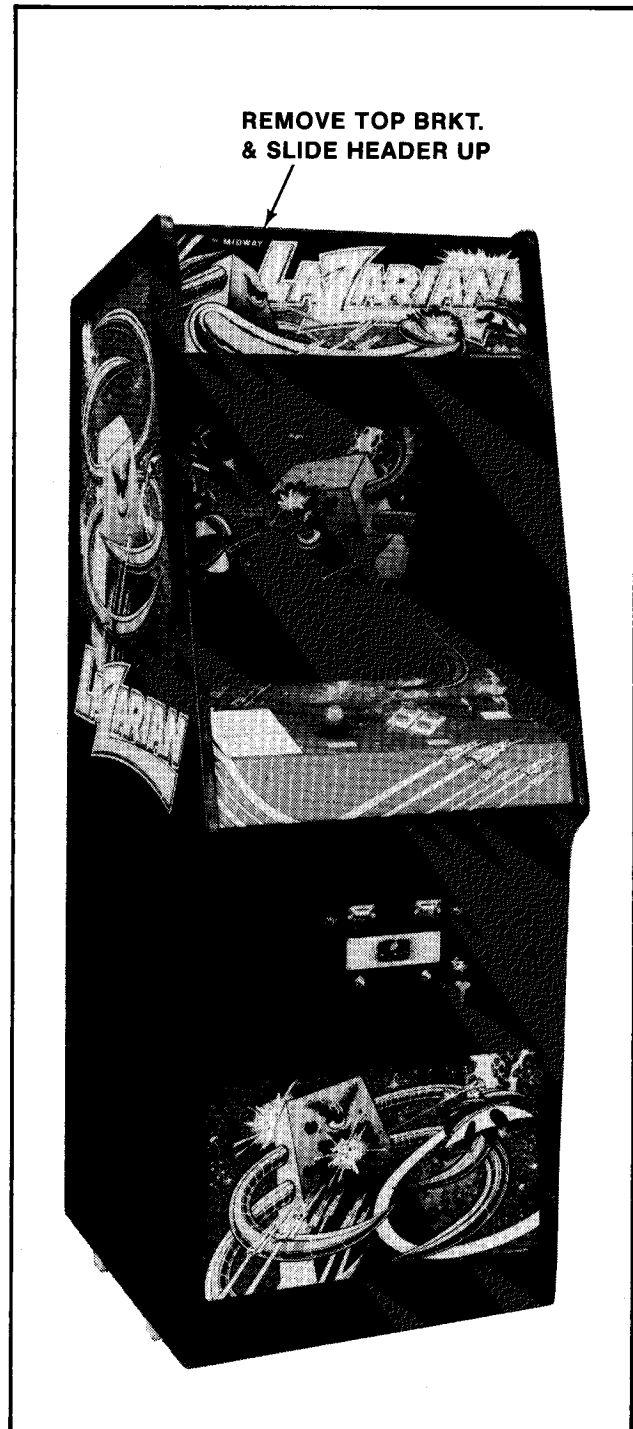

Figure 4-15 Opening the Attraction Panel — Upright
1. UPRIGHT MODEL: See Figure 4-15.
- Remove the screws which secure the top bracket in place. (They are on its top side.) See Figure 4-15.